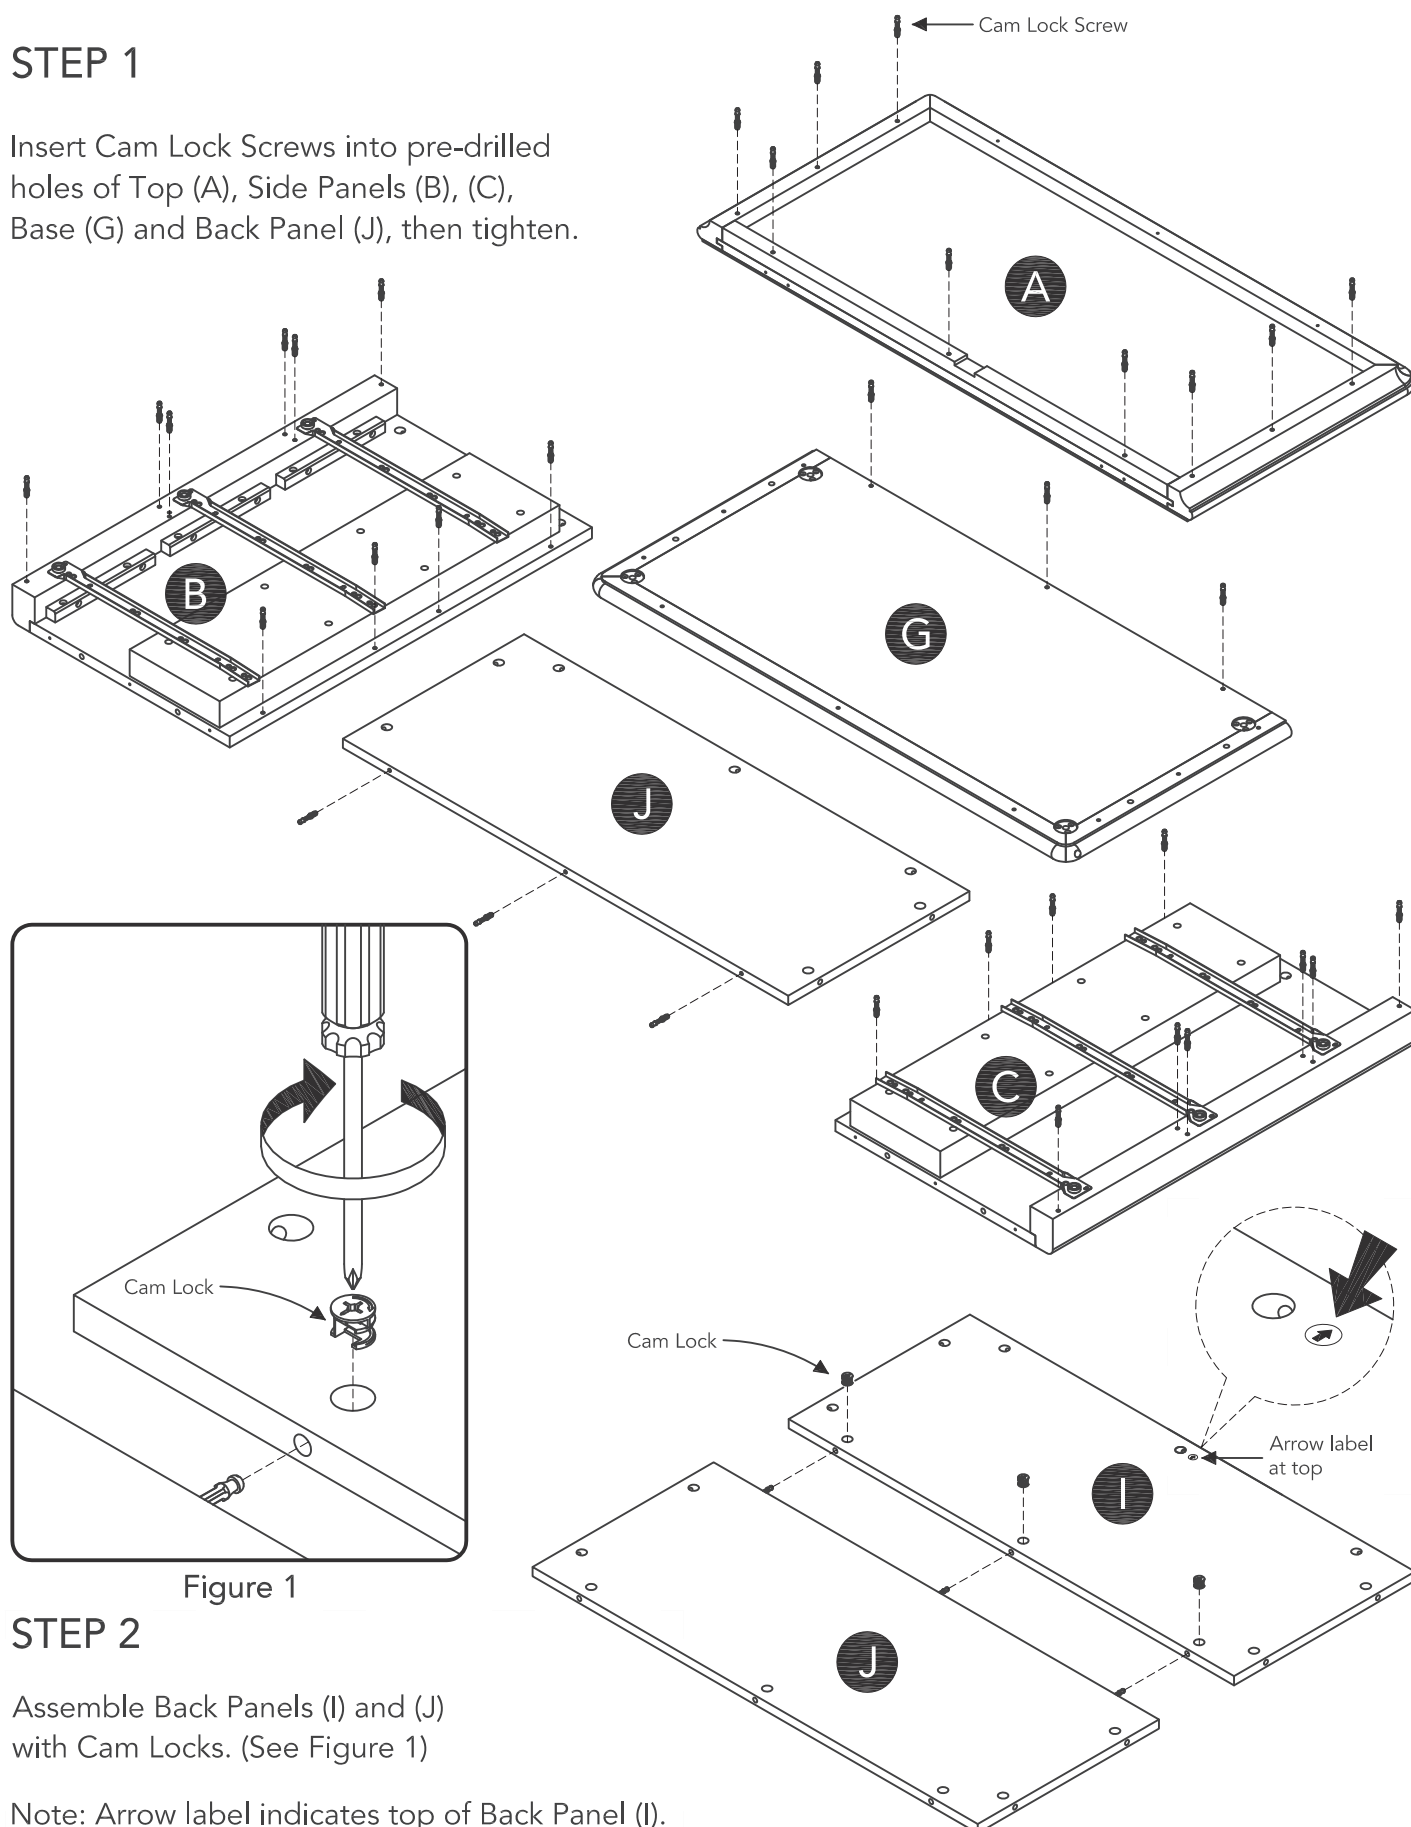

Figure 1
Assemble Back Panels (I) and (J) with Cam Locks. (See Figure 1)